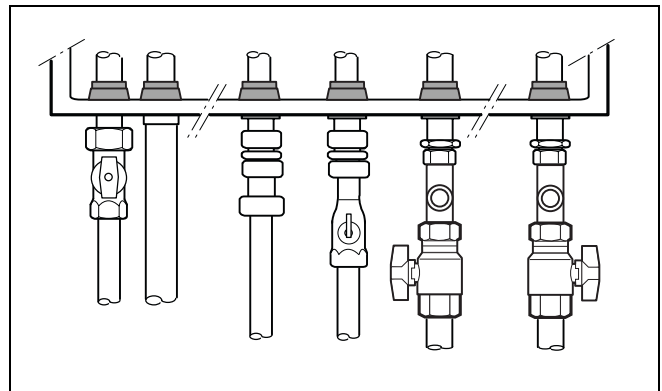

fig. 43 Visual inspection for signs of corrosion
- Check all gas-bearing and water-bearing pipes for signs of corrosion (fig. 43).